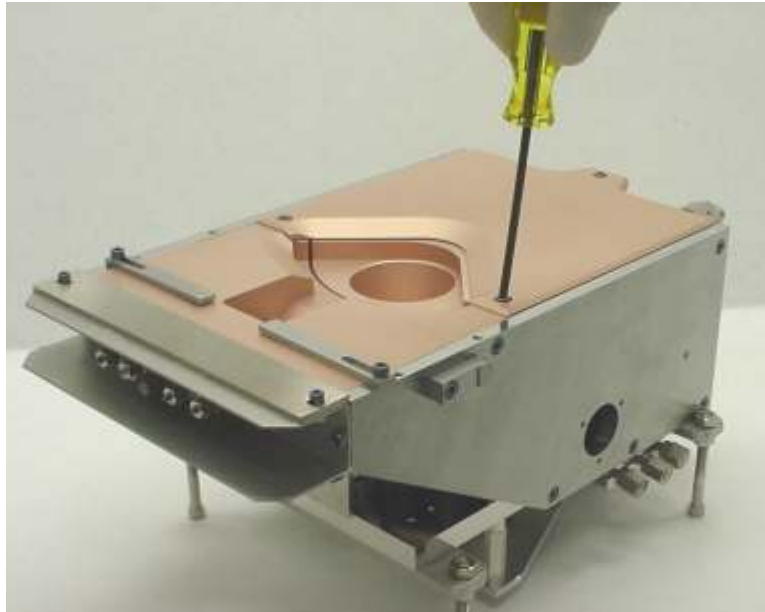

Figure 5-1. Removing the crucible cover
Follow the procedure described below when disassembling the entire emitter assembly. Refer to Figures 5-1, 5-2, and 5-3 for parts identification.
Follow the sequence described below when reassembling the emitter. Refer to Figures 5-1, 5-2, and 5-3 for parts identification. It is advisable to use new ceramic parts when reassembling the emitter. It is extremely difficult to clean these parts thoroughly, and they are likely to have invisible cracks that can result in breakage upon reassembly and/or shorts during subsequent source operation.
- Step 1. Using the Allen tool provided with the unit, remove the 3 socket-head screws that secure the crucible cover to the push rods (see Figure 5-1). Then remove the cover.